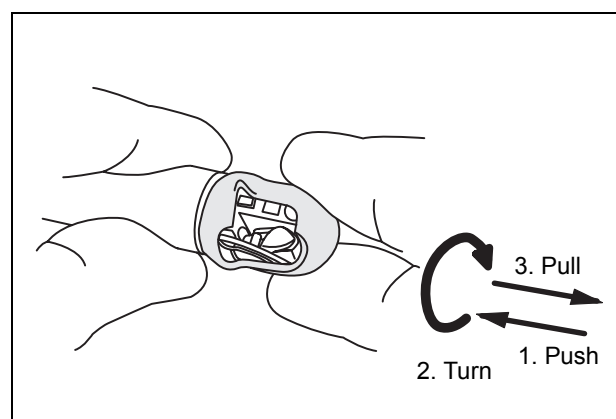

Figure 3.18
4. While maintaining the condition obtained in Step 3. (pressing the distal cover), turn the top end of the distal cover clockwise until it stops as shown in Figure 3.18.